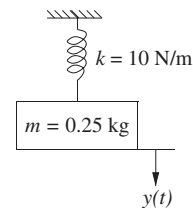

Figure P10.26 Mass-spring systems for problem P10-26.
- 10-26.** The displacement $y(t)$ of a spring-mass system shown in Fig. P10.26 is given by